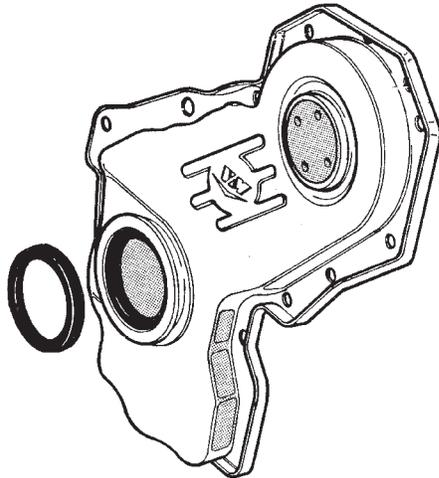

Fig. 37 Front Cover Seal
- (1) Disconnect the battery cable.
- (2) Remove vibration damper. Refer to vibration damper removal in this section.
- (3) Pry out seal (Fig. 37).